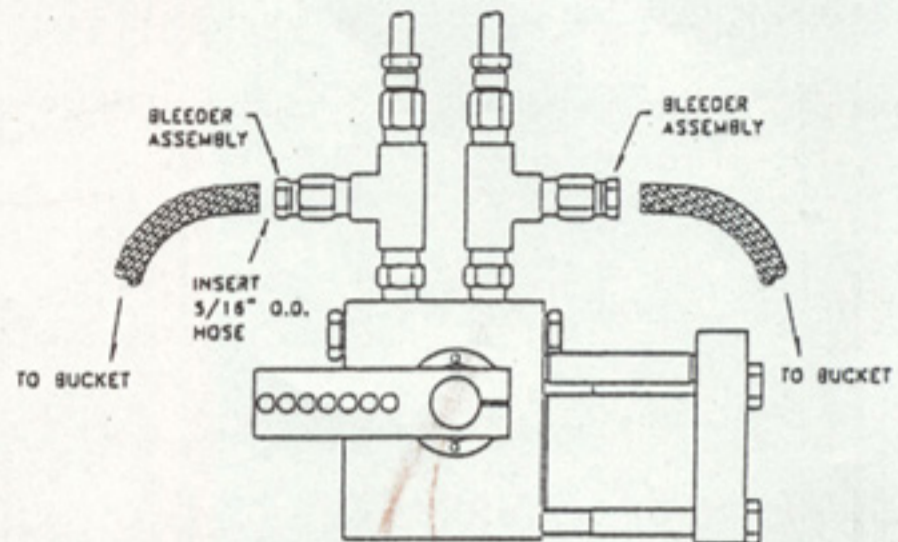

Figure 1 Slave (typical)
5. Insert end of 5/16" tube into one Slave Bleeder Fitting, other end into a clean container or bucket. Refer to Figure 1.